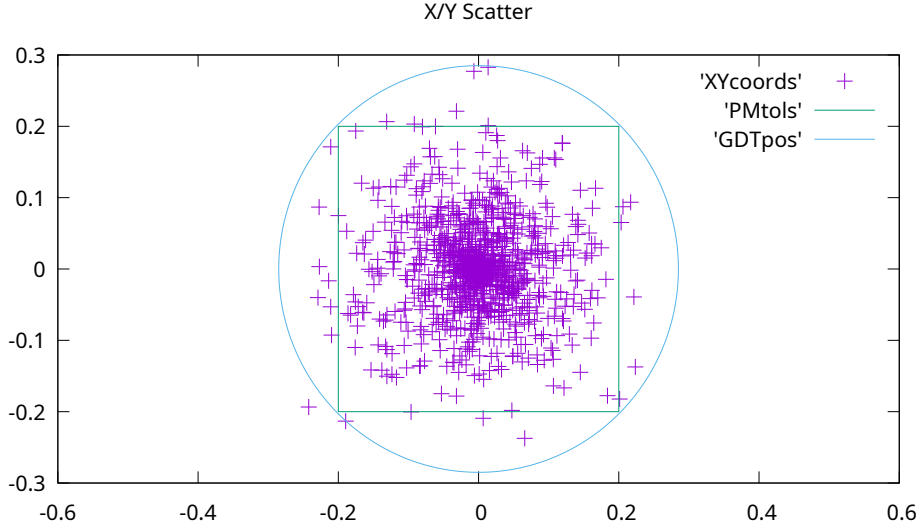
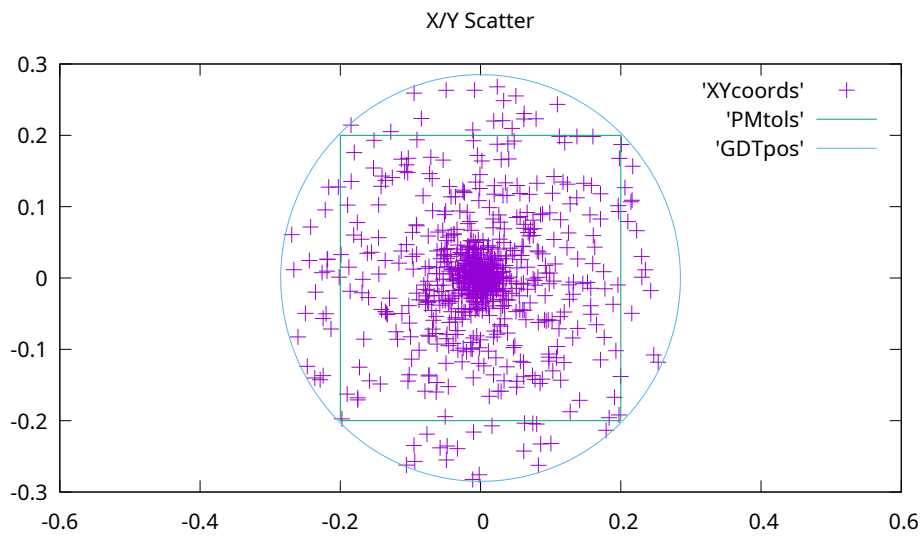
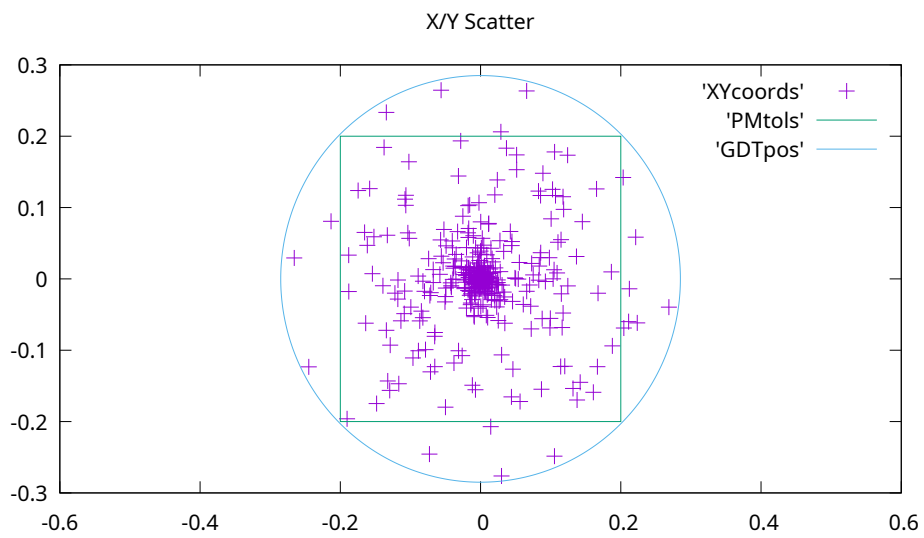

Figure 2: Normal Scattered Data
Figure 3: Exponent Distribution $R^{2.8}$
Figure 4: Exponent Distribution R^9
The positional tolerance has been calculated as $\varnothing 0.570$. On Figure 2, there are 24 holes outside the \pm tolerance range, out of 1000 total.³
We are evaluating the Normally scattered data in Figure 2 .
1. The first we can do is examine Figure 2 and look for holes located outside 3σ . 3σ has been arbitrarily set to GD&T positional tolerance, shown as the circle on Figure 2 . 99.7% of the data should be inside the circle, and 0.3% should be outside it. By observation, on most runs of this program, we see that holes are outside the 3σ circle.
We have three columns, Normal, Match 1σ , and Match 2σ . We want to match values from authentic Normal data. Exponent values were punched in and tested. As can be seen from Figure 3 and Figure 4 , the scattered data do not look like Normal scattered data. Exponents can be selected which match certain parts of Normal distribution.
Assume for the moment that the positional tolerance called up is set to the process 3σ . It can be seen from Figure 2 that the \pm tolerance will capture around 98% of the correctly located holes. It is good design practice to ensure that fabrication capability is well within the required tolerances, when ensures that the \pm tolerances capture even more valid data. This is not a good case for positional tolerancing.
I cannot find this written up anywhere. A quick and dirty way to generate Normal-like distribution is to generate random numbers between zero and one, and take them to some exponent. The exponent values cluster towards zero. As can be seen by comparing the Normal curve (Figure 2) with Figure 3 and Figure 4), the exponent curves are not that good a model. If you are interested in how many values are out close to the positional tolerance circle, exponent distribution provides a conservative result.